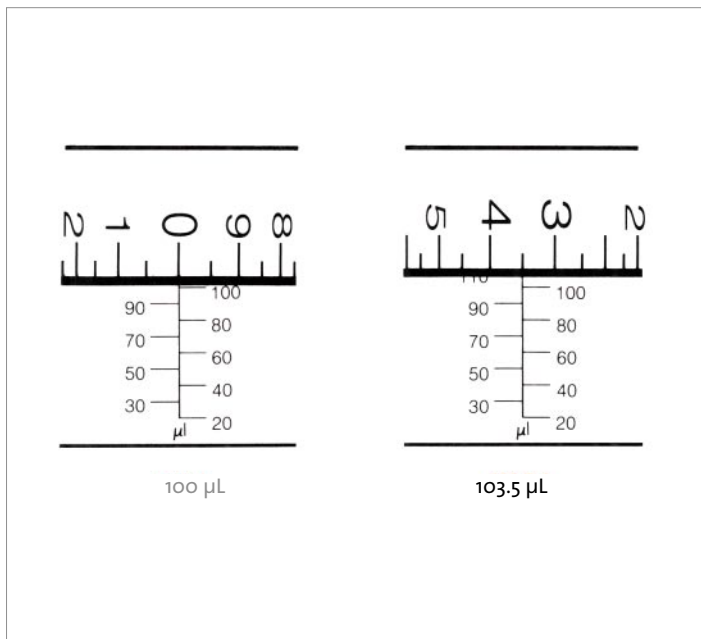

Figure 1. Head Settings
- D. Now rotate the head to the line halfway between 3 and 4. Volume is 100 plus 3 μL , or 103 μL or 103.5 μL . The setting increments are very large on the micrometer head to allow easy reference to volume settings. (See Figure 1.)